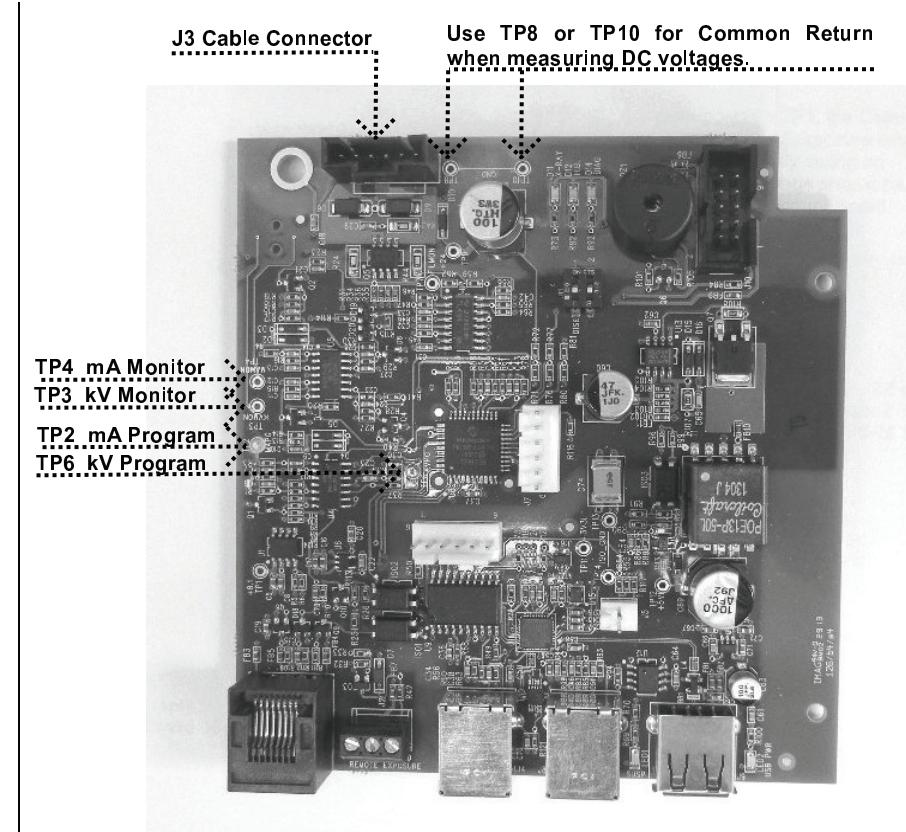

Figure 59
3. If the cabling is found acceptable, select 1.5 seconds of exposure time, and placing a DC voltmeter on TP8 or TP10, the Common Return on the Logic Board, measure the feedback values at TP4 mA Monitor and TP3 kV Monitor, as shown in Figure 59. Look for the following values:
1. On the Logic Board, place a voltmeter on TP8 or TP10, the Common Return, and TP6, kV Program, as shown in Figure 59. Compare measurements to the following chart (volts DC).
2. To evaluate the feedback voltages that represent the measured kV within the system, compare the observed values in the table below. To properly observe these values, select 1.5 seconds of exposure time and measure the DC voltages during the exposure only. This measurement is made across TP8 or TP10, the common return and TP3, the kV Monitor, as shown in Figure 59.
1. On the Logic Board, place a voltmeter on TP8 or TP10, the Common Return and TP2, mA Program, as shown in Figure 59. Compare measurements to the following chart (volts DC).
2. To evaluate the feedback voltages which represent the measured mA within the system, refer to the table below; select 1.5 seconds of exposure time and measure the DC voltages during the exposure only. This measurement is made across TP8 or TP10, the Common Return, and TP4, the mA Monitor, as shown in Figure 59.